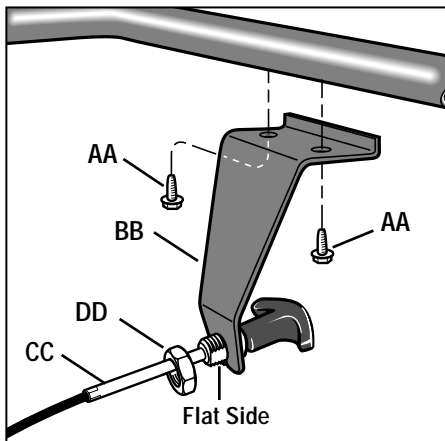
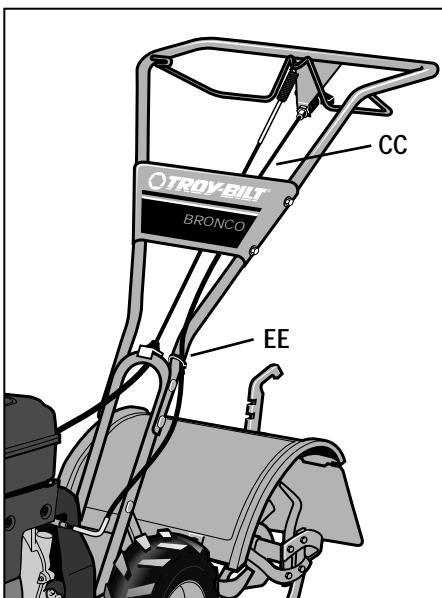

Fig. 2-8: Install reverse cable bracket and reverse clutch cable.
Fig. 2-9: Route reverse clutch cable (CC) as shown. Attach with cable tie (EE).
1	Bracket, reverse clutch cable (see BB, Fig. 2-8, page 9)
1. Remove the two pre-installed self-tapping screws (AA, Fig. 2-8) from the handlebars.
2. Position the reverse cable mounting bracket (BB, Fig. 2-8) as shown and reinstall the two self-tapping screws.
3. Unwrap the reverse clutch cable (the cable with a knob and a large hex nut attached to it) from around its shipping position and route the cable (CC, Fig. 2-8 and Fig. 2-9) up to the cable bracket (BB, Fig. 2-8). Be sure that the cable goes beneath the Forward Clutch Bail as it is routed up to the cable bracket.
4. Insert the cable up through the slot in the cable bracket and position the threaded assembly as shown in Fig. 2-8. Make sure that the flat side of the threaded assembly is aligned with the flat side of the mounting hole. Slide the large hex nut (DD) up the cable and tighten it securely.
5. Fasten the reverse clutch cable to the left side handlebar with a cable tie (EE, Fig. 2-9).